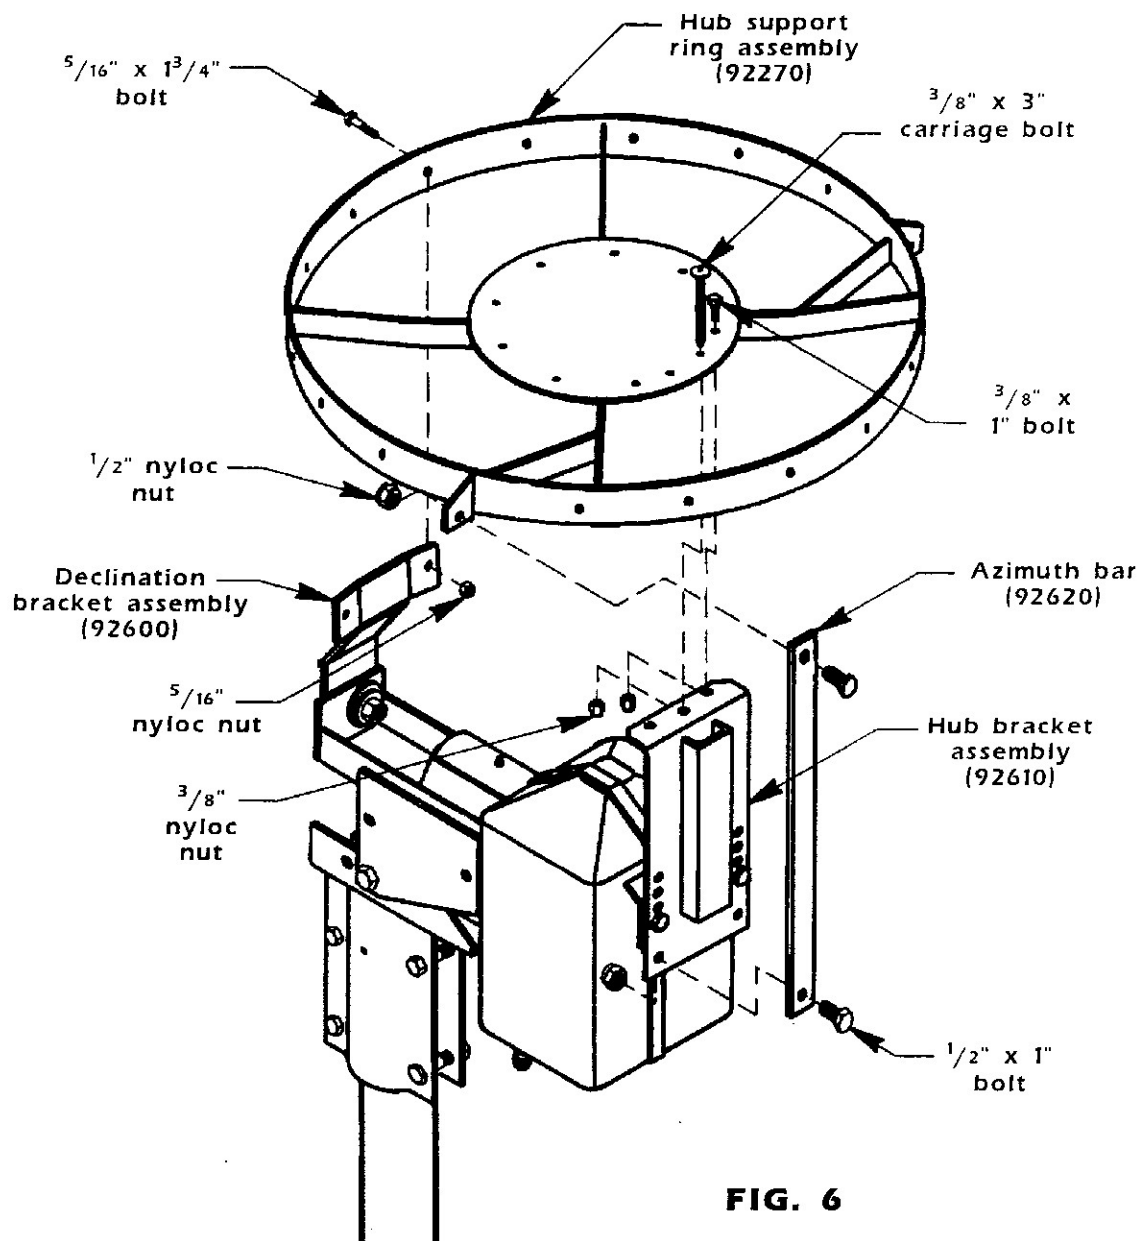

FIG. 6
1. On the preassembled hub support ring assembly, locate the two open holes on the back hub plate. After locating the two open holes, remove the  $\frac{3}{8}$ " x 3" carriage bolt and the  $\frac{3}{8}$ " nyloc nut between the two open holes. Attach the preassembled hub support ring assembly to the hub bracket assembly using the  $\frac{3}{8}$ " x 3" carriage bolt and the  $\frac{3}{8}$ " nyloc nut that were just removed along with two  $\frac{3}{8}$ " x 1" bolts and two  $\frac{3}{8}$ " nyloc nuts. **Do not tighten!** (See Fig. 6)
2. Attach the preassembled hub support ring assembly to the declination bracket assembly using two  $\frac{5}{16}$ " x  $1\frac{3}{4}$ " bolts and two  $\frac{5}{16}$ " nyloc nuts. **Do not tighten!** (See Fig. 6)
3. Attach the two azimuth bars to the two bottom holes of the hub bracket assembly using two  $\frac{1}{2}$ " x 1" bolts and two  $\frac{1}{2}$ " nyloc nuts. Attach the other end of the azimuth bars to the hub support ring assembly tabs using two  $\frac{1}{2}$ " x 1" bolts and two  $\frac{1}{2}$ " nyloc nuts. (See Fig. 6)